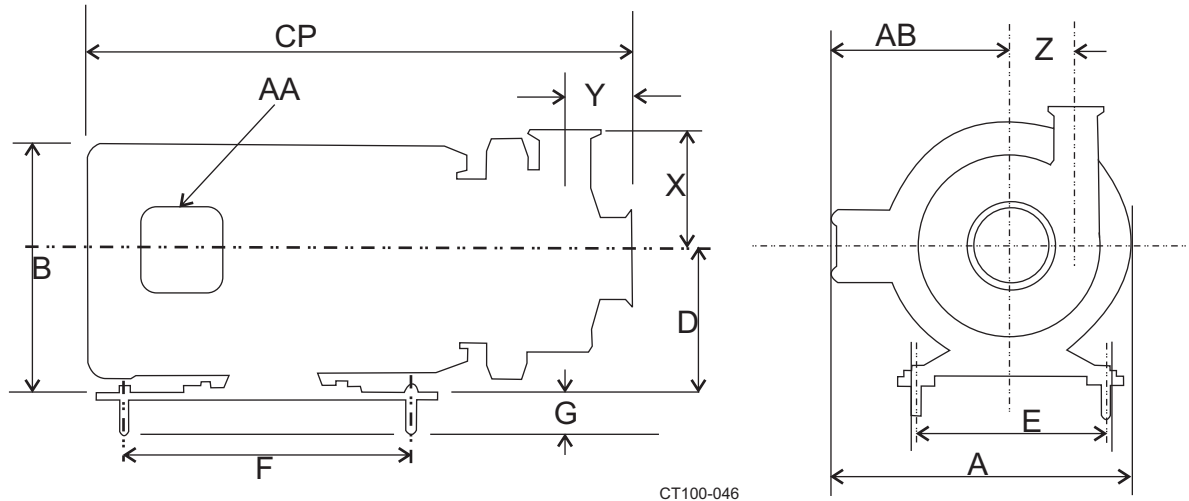

Figure 5 - Dimensions
NOTE: Figure 5 dimensions are continued on page 12.
**Table 3: Table of Dimensions, continued (ref. Figure 5 on page 12)**
**Table 4: Table of Dimensions, continued (ref. Figure 5 on page 12)**